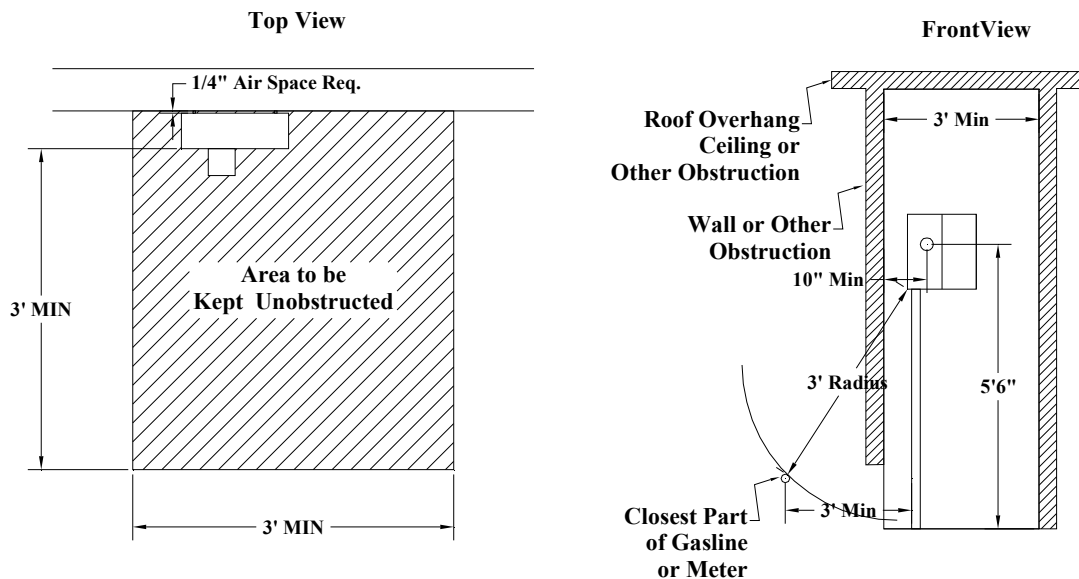

Figure 5-2.1 – Minimum Clearances around Meters
- Clearances must be at least as shown in figure 5-2.1 below: